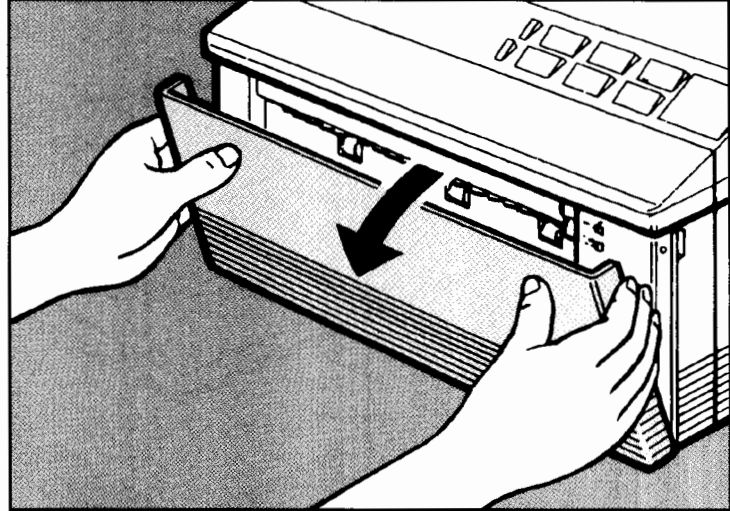

Figure 1-3. Opening Multi-Purpose Tray Door
Open the Multi-Purpose (MP) tray by pulling down on the left and right sides of the Multi-Purpose tray door, as shown in figure 1-3.